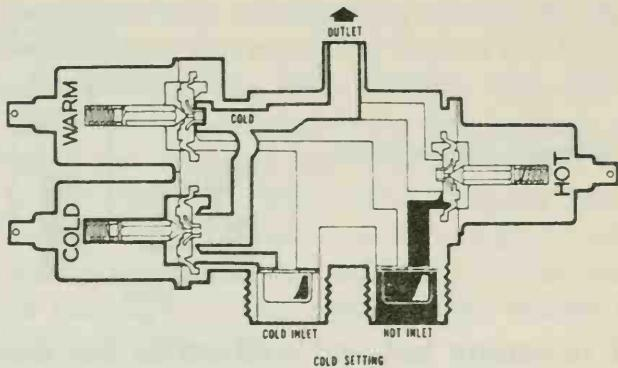

Fig. 3-19. Triple-solenoid shutoff valve.
*Triple Solenoid Shutoff Valve* (Fig. 3-19)—This valve permits four different wash temperatures—hot, medium, warm, and cold. It has a mixing chamber in which cold and hot water in varying amounts are combined to obtain the desired wash temperatures.